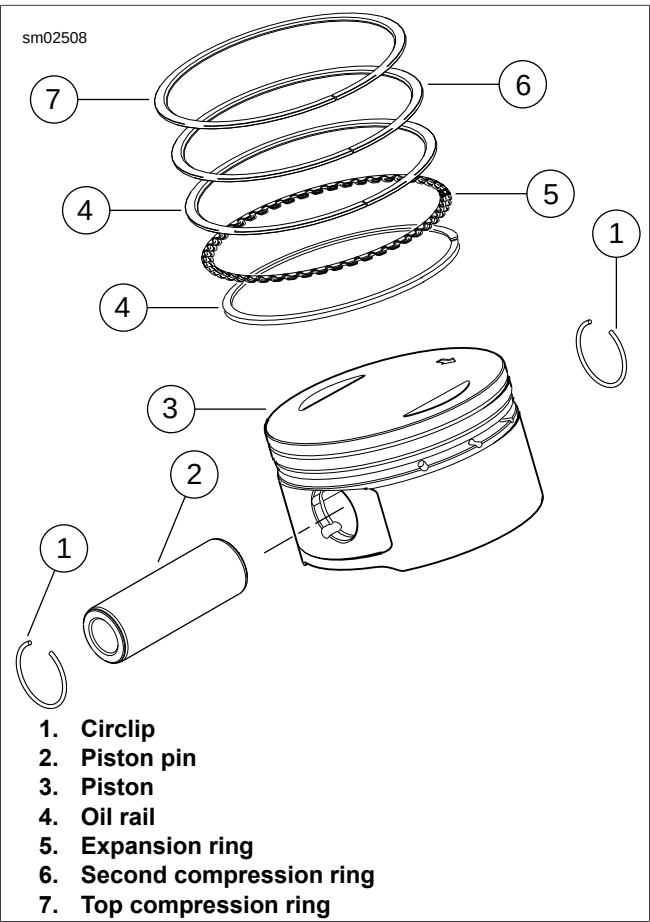

Figure 3-62. Piston Assembly
1. See Figure 3-62. Carefully remove top (7) and second (6) compression rings using the proper PISTON RING EXPANDER (Part No. Snap-on PRS8).
2. Using your fingers, remove top and bottom oil rails (4) from the third ring groove. Remove the oil rail expansion ring (5).